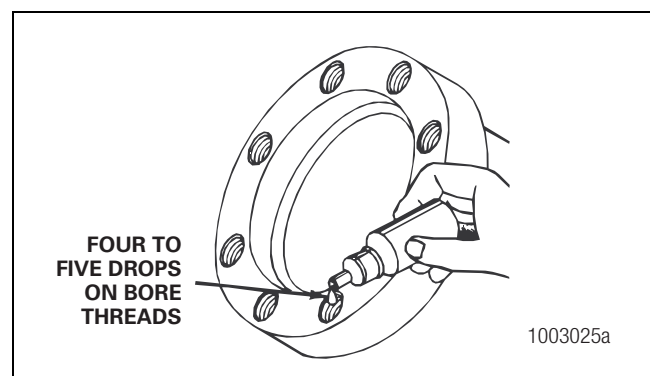

Figure 6.7
2. Apply four or five drops of Meritor liquid adhesive 2297-C-7049, Loctite® 638 or 680 liquid adhesive or equivalent inside each threaded hole or bore. Do not apply adhesive directly to the fastener threads. Figure 6.7.